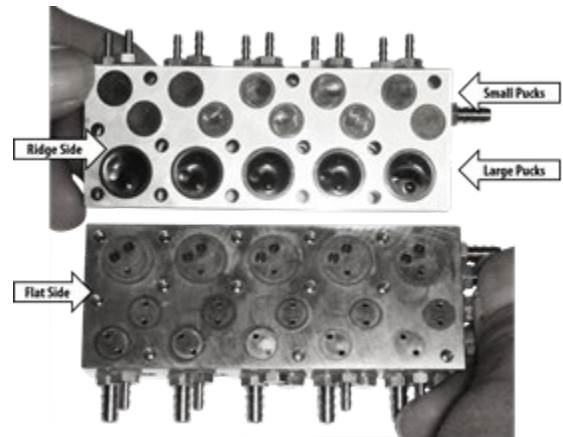

Fig. 4
- 9 Remove existing diaphragm or pucks and replace with new. (Fig.4)
Hold one side of the block and then carefully place the other side of the block on top and align. Be careful not to dislodge any of pucks. (Fig. 4)